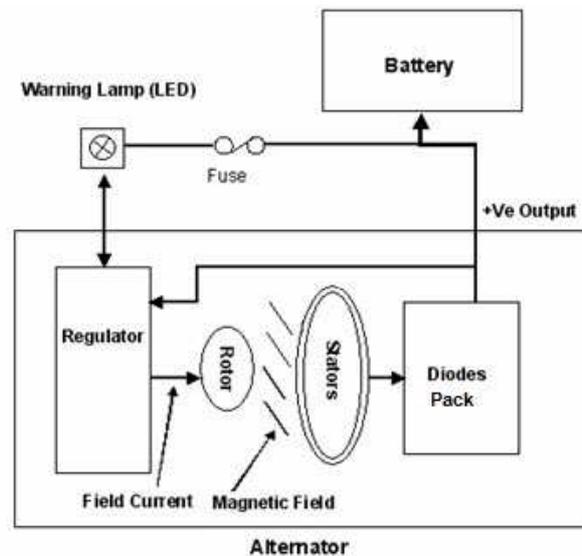

**Figure 47**
5. During cranking when it detects that there is no drop in voltage, it will display the following screen (Figure 47).